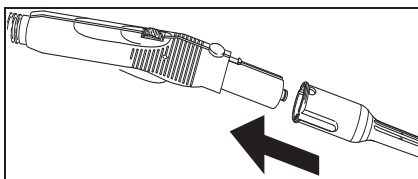

Figure 6
- Connect the required accessories (D1, E1, F1) with the steam gun (C1). Insert the open end of the accessory on the steam gun (C1) and push onto the steam gun until the unlocking button (C2) of the steam gun locks into place (see Fig. 6).